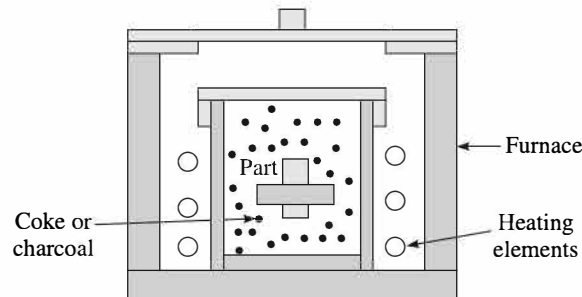

Figure 5.13 Pack or solid carburizing.
1. **Pack carburizing:** In this process, the work piece to be carburized is placed in a carburizing box of a proper design made of a special heat resisting alloy, cast iron, or steel sheet along with charcoal, coke or other carbonaceous materials. This box is heated to the desired temperature for a long duration, due to which the carbonaceous material releases carbon monoxide gas. This gas in turn reacts with the work piece metal and releases carbon, which is then absorbed by the surface of steel (Figure 5.13).